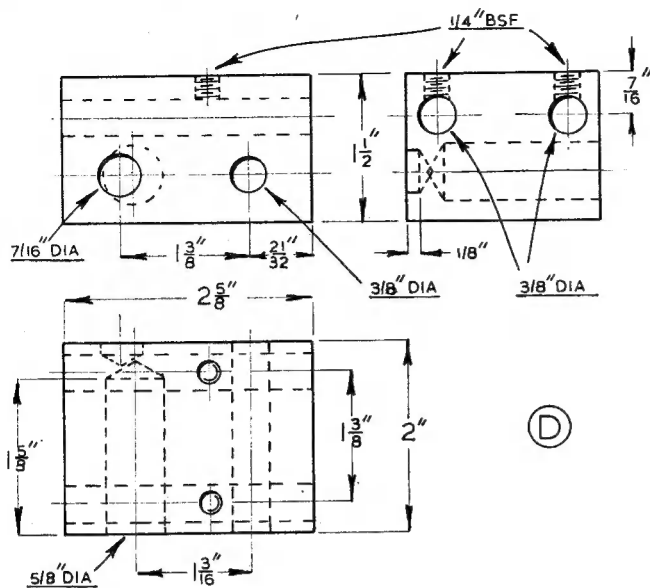

Fig. 8. Details of the bending-head
**Operation 1.** A piece of rectangular bright mild-steel is supplied for making this component to the drawing, Fig. 8, and the first step is to prepare the material for machining by filing all surfaces to remove burrs.
The drawing, Fig. 8, shows these  $\frac{3}{8}$ -in. holes to be blind-ended, but in the modification these holes have been machined clear through, so that, firstly, the lever can be withdrawn into the machine to enable it to take up a small space when packed away, and secondly, what is more important, the bending head can then be used as a jig for drilling and reaming the sliding stud *H*.